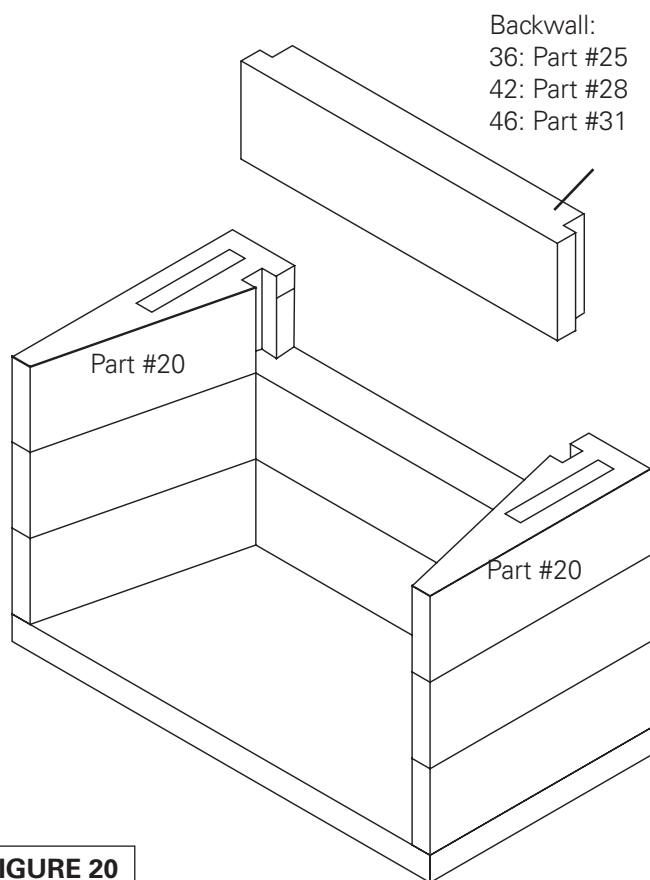

FIGURE 20
3. Continue assembly of the consecutive courses of the firebox side wall and back wall, making sure to stagger the backwall components. Apply adhesive to the top of each layer of wall components, set the next course above into place. Be sure to Earthcore adhesive all vertical joints of the side wall to back wall connection when setting each component to its mate. **(Figure 20)**